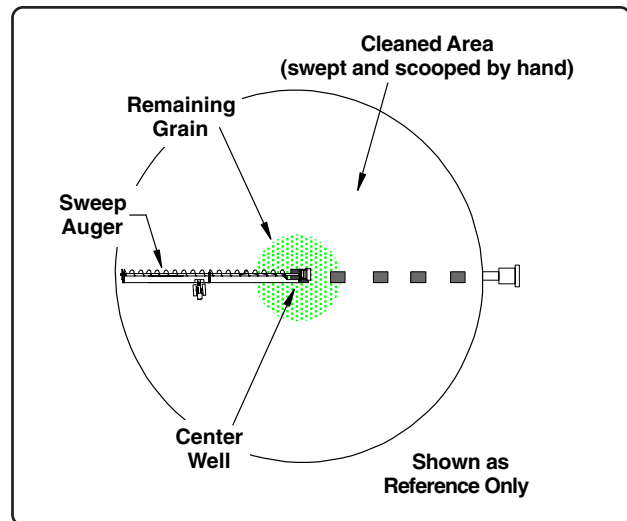

Fig. 4
3. Shut down and lockout the power source to the unload auger and sweep auger. Clean (scoop and sweep by hand) the remaining floor area into a circular pile towards the center of the bin (See Fig. 4).